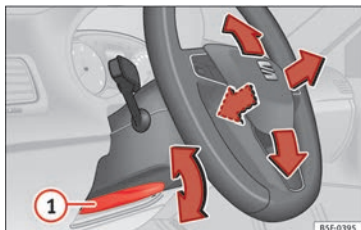

Fig. 16 Lever in the lower left side of the steering column.
• Adjusting the position of the steering wheel: Pull the » » **Fig. 16** ① lever down, move the steering wheel to the desired position and lift the lever back up until it locks.